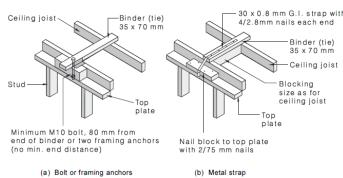

FIGURE 6.10 BINDERS
- (d) tie members (binders) (see Figure 6.10).
*Where binders are required, they shall be 35 × 70 mm min. continuous members fixed to the external top plate as shown in Figure 6.10. Binders may be spliced, provided 4/75 mm nails, or equivalent, are provided for each side of the joint; that is, binders overlap at least two ceiling joists with 2/75 mm nails to each joist and/or binder crossing.*